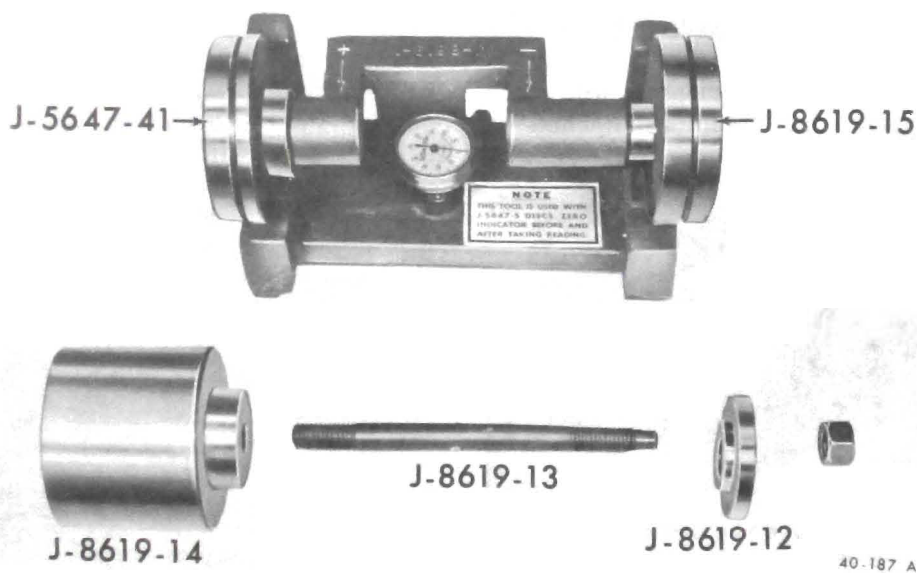

Figure 40-193 - Pinion Setting Gage Assembly
5. Position indicator gage assembly on the master gage so that its spring loaded centering pin is engaged in the centering hole in the master gage. See Figure 40-193.